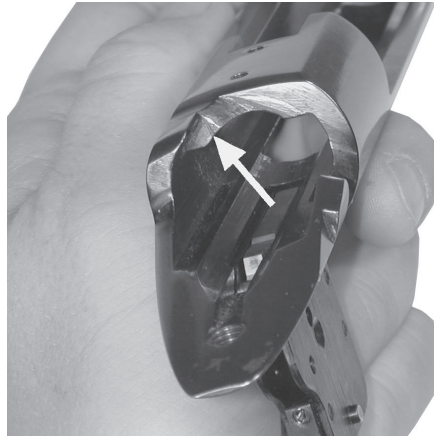

Figure 7
10. Using a polishing stone or rotary tool, create a slight radius along the edge of the top left corner (F) of the rear receiver ring to prevent binding. (See Figure 7).